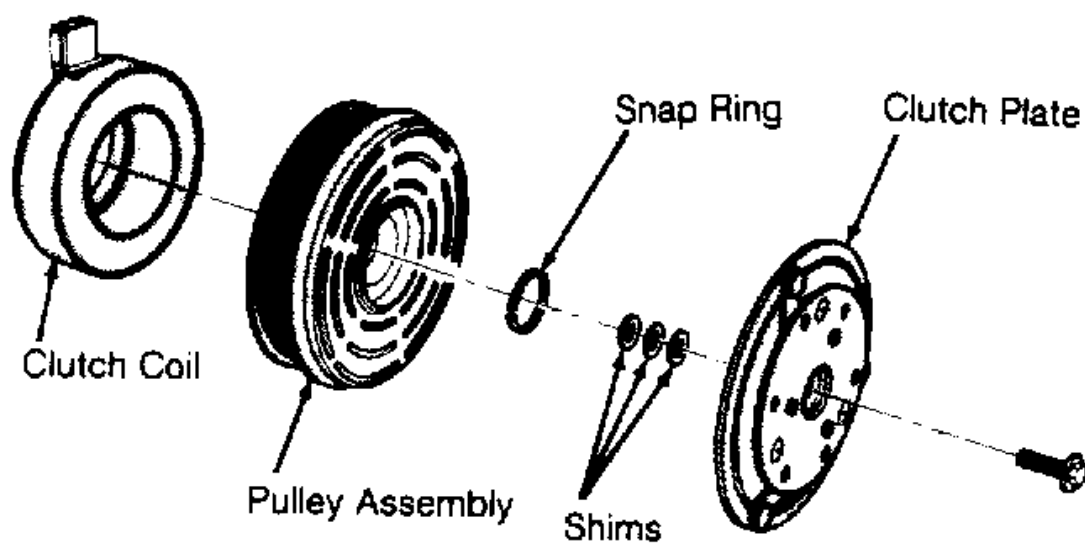

Fig. 2: View of Ford FX-15 10-Cyl Compressor Clutch Assembly
1. Discharge system using approved refrigerant recovery/recycling equipment. Remove compressor. Using Spanner (T70P-4067-A), remove clutch plate retaining bolt and discard. Using an 8-mm bolt threaded into clutch plate, remove clutch plate and shims. See Fig. 2 .
1. Discharge system using approved refrigerant recovery/recycling equipment and remove compressor. Using Spanner (T70P-4067-A), remove clutch plate retaining bolt and discard. Using an 8-mm bolt threaded into clutch plate, remove clutch plate and shims. See Fig. 2.